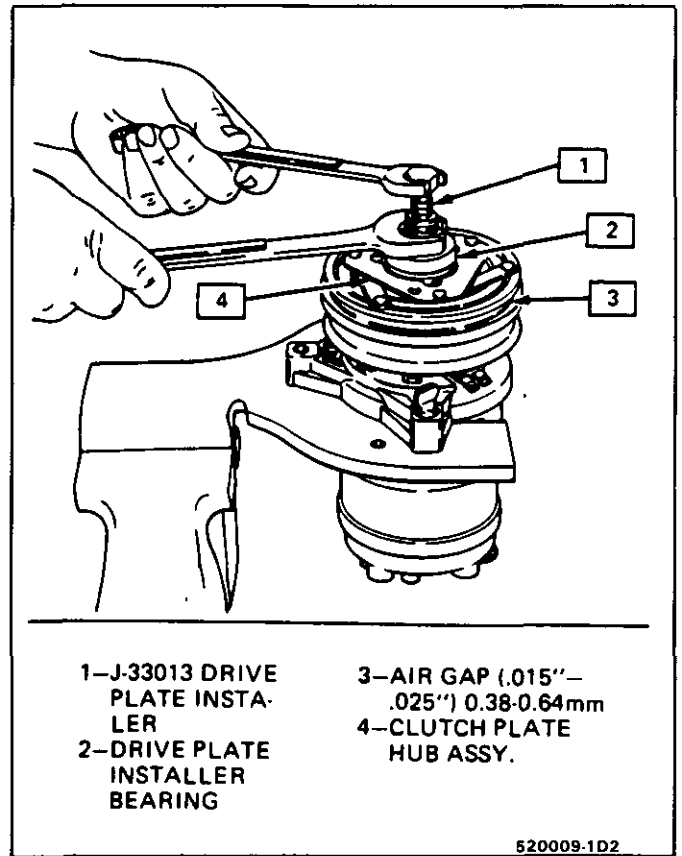

Fig. 9 Installing Clutch Plate & Hub Assembly
4. Remove the forcing tip from the J-33013 remover - install center screw and reverse the body direction on the center screw as shown in Fig. 9.
5. Install the clutch plate and hub installer J-33013 with bearing as shown in Fig. 9.